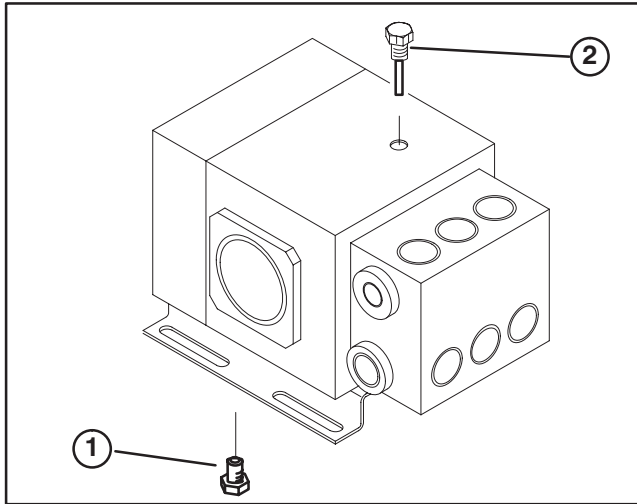

Figure 9
2. Remove drain plug allowing oil to drain from pump crankcase (Fig. 9).